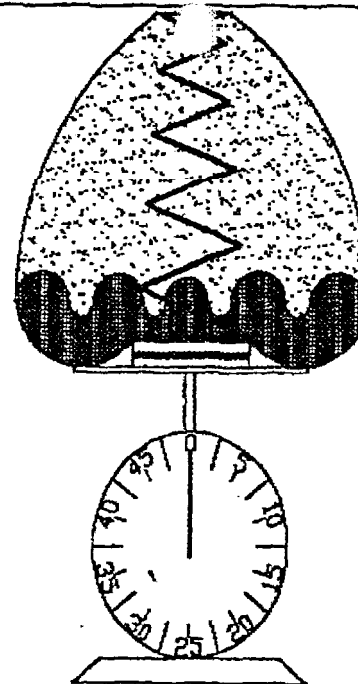
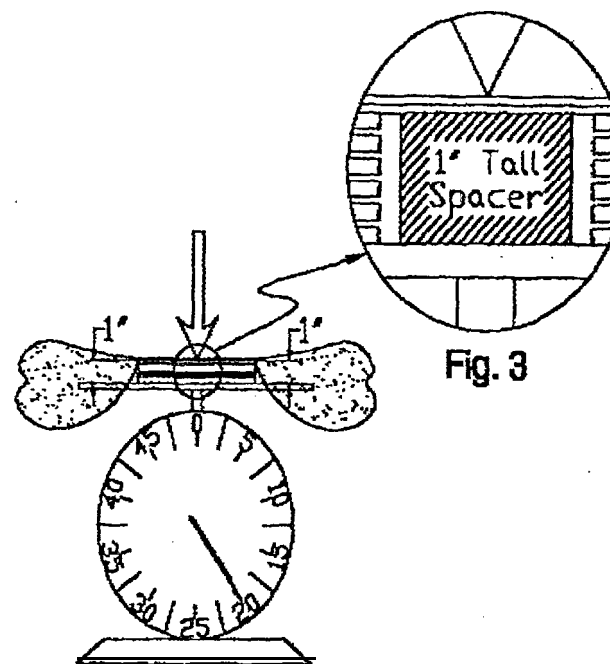
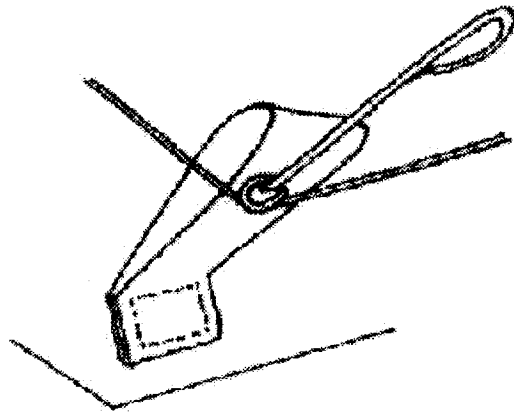

Fig. 1
Fig. 3
Figure 2 - Suspension line snagged around grommet on main loop anchor
Service Bulletin: Place the base of the Vector I pilot chute on an accurate scale as shown in Figure 1. Compress the pilot chute to within 1" of maximum compression as shown in Figure 2. A 1" spacer must be used to determine the 1" depth as shown in Figure 3. Be careful not to transfer any force through the spacer as this will cause the scale to read inaccurately high. The scale should read at least 20 lb. for the pilot chute to remain in service. If less than 20 lb. is reached or if the measurement is questionable, replace the pilot chute with a Vector II Reserve Pilot Chute.
- 2) On main containers with a "main closing loop webbing anchor", users / riggers should contact the manufacturer for their current recommendations. See Figures 2 and 3.